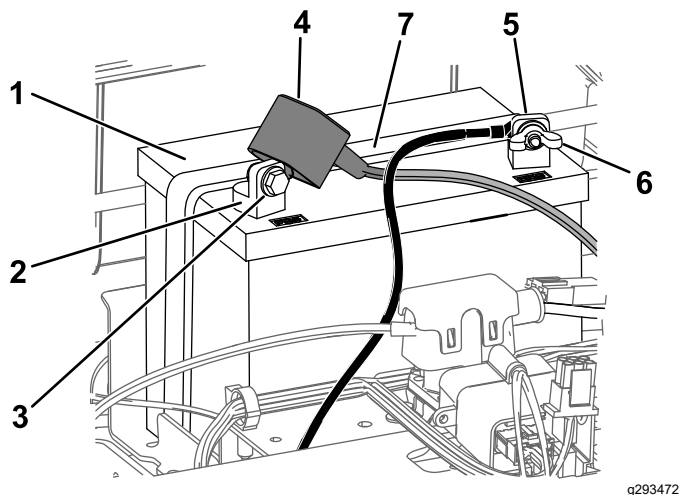

Figure 44
4. Disconnect the negative (black) ground cable from the battery post (Figure 44).
6. Disconnect the positive (red) cable from the battery post (Figure 44).
7. Remove the battery hold-down (Figure 44), and lift the battery from the battery tray.
1. Position the battery in the tray (Figure 44).
5. Secure the battery with the hold-down (Figure 44).